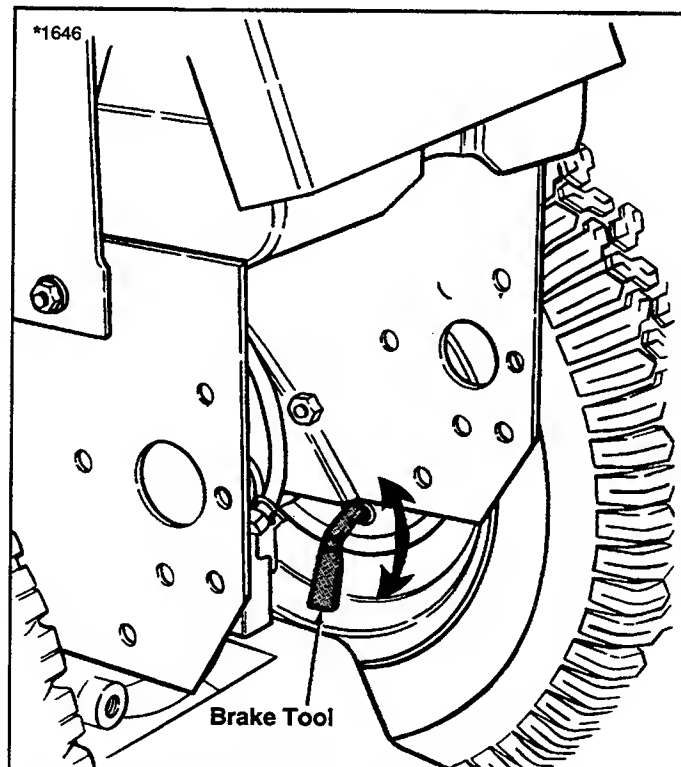

Figure 26. Brake Shoe Adjustment
3. The brake shoes are adjusted by turning an adjusting star wheel inside the hub. See figure 26.